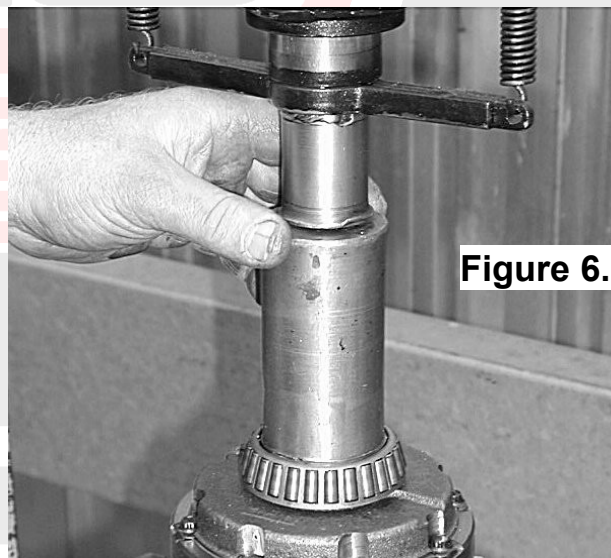

Figure 6.
- ☐ Press the bearing cone which was supplied with the *Air Locker* kit onto the bearing journal, taking care not to damage the o-ring grooves. (Figure 6.)